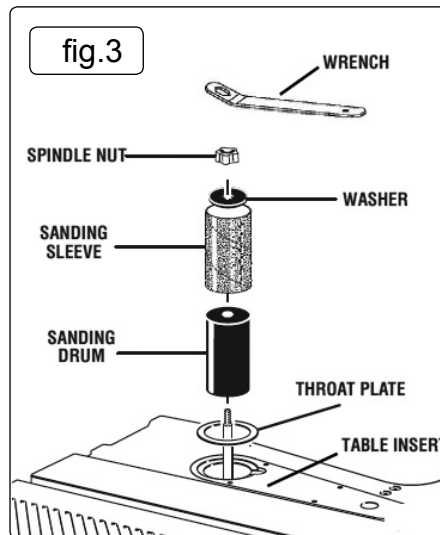

fig.3
- 5.1.2. Slide the belt assembly down the drive shaft (fig.3). Align the drum drive splines with the slots in the fan.